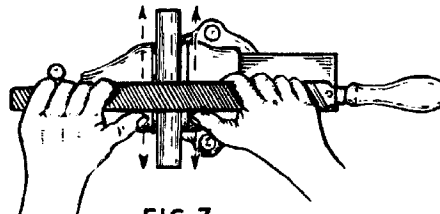

FIG. 7
3. Grasp the file with both hands so that the thumbs will be located about $\frac{3}{4}$ inch in from each side of the job as shown in Fig. 7.